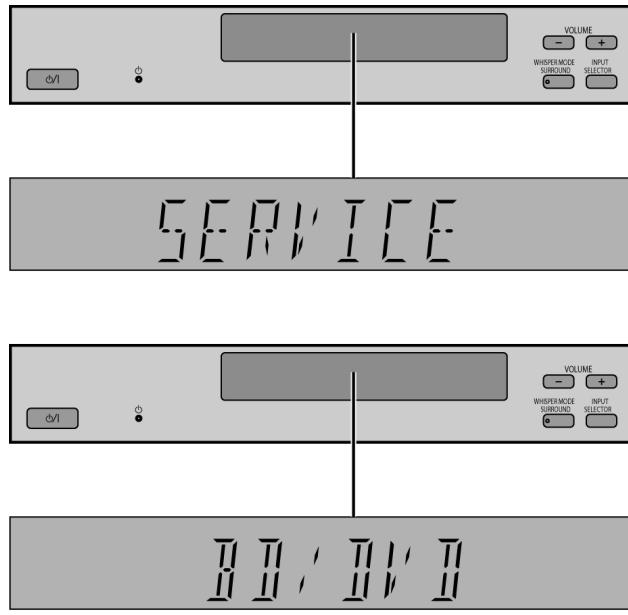

Fig. 5.2
2. The message, [SERVICE] appears on the display for three seconds, and then it will display the following. Refer to Fig. 5.2.